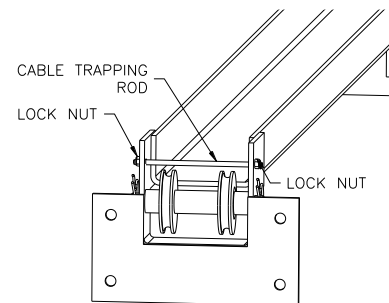

Fig. 4-Cable Trapping
- 15) At the upper beam sheave locations disassemble and reassemble the cable trapping rod to install the cable onto the sheave, See **Fig. 4**. To install the cable bottom sheave will need to be removed then reassembled.